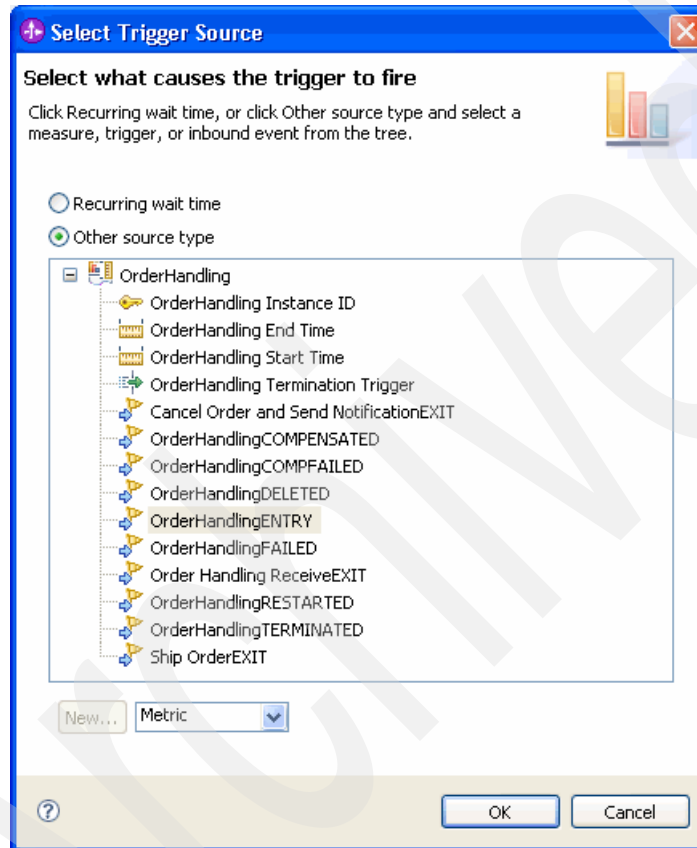

Figure 5-31 Selecting the New Order Trigger event
- b. In the Select Trigger Source window (Figure 5-31), select **Other source type** and select **OrderHandlingENTRY**. Then click **OK**.